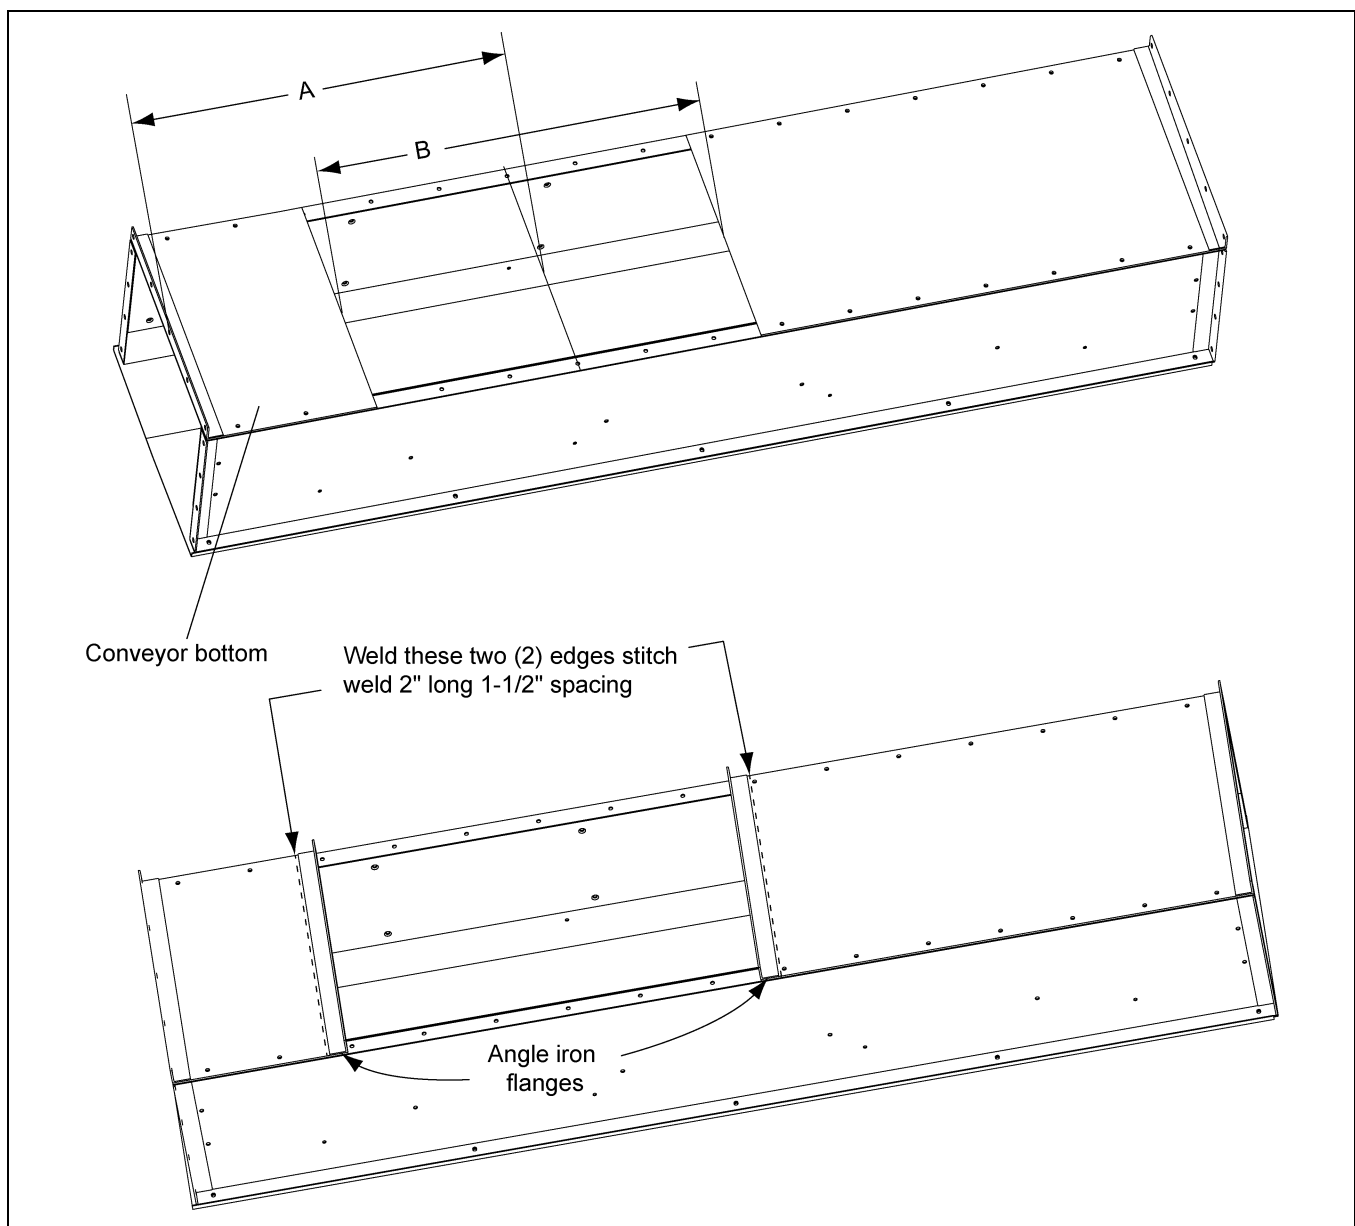

Figure 3B
1. Start by locating the center of the proposed discharge location. Dimension "A" shown in Figure 3B.
5. Weld the extra angle iron flanges provided with the gate to each trough bottom cut, as shown in Figure 3B, so that the gate can be bolted to each side. Stitch weld edges 2" long with 1-1/2" spacing.